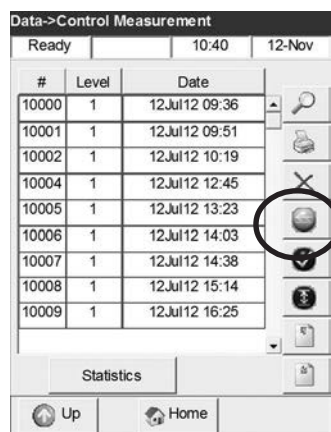

Fig. 4-39 Export Data
3. Select the data to be exported and press  to start the data transfer (Fig. 4-39).